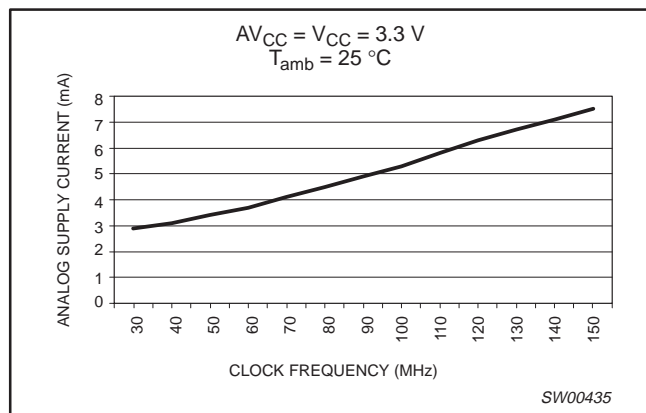

Figure 1. Analog supply current vs. clock frequency
- For I_{CCA} and I_{CC} vs. Frequency, see Figures 1 and 2.